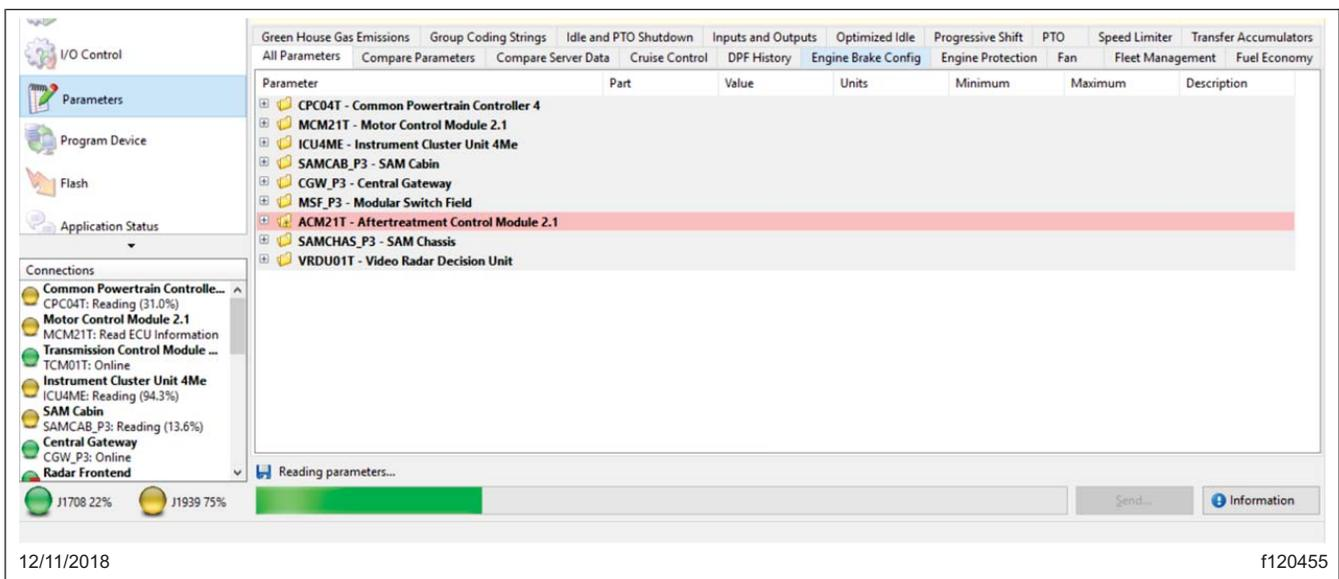

Fig. 3, Reading Vehicle Parameters on DiagnosticLink
- Once all controllers are connected, read the vehicle parameters. See Fig. 3.